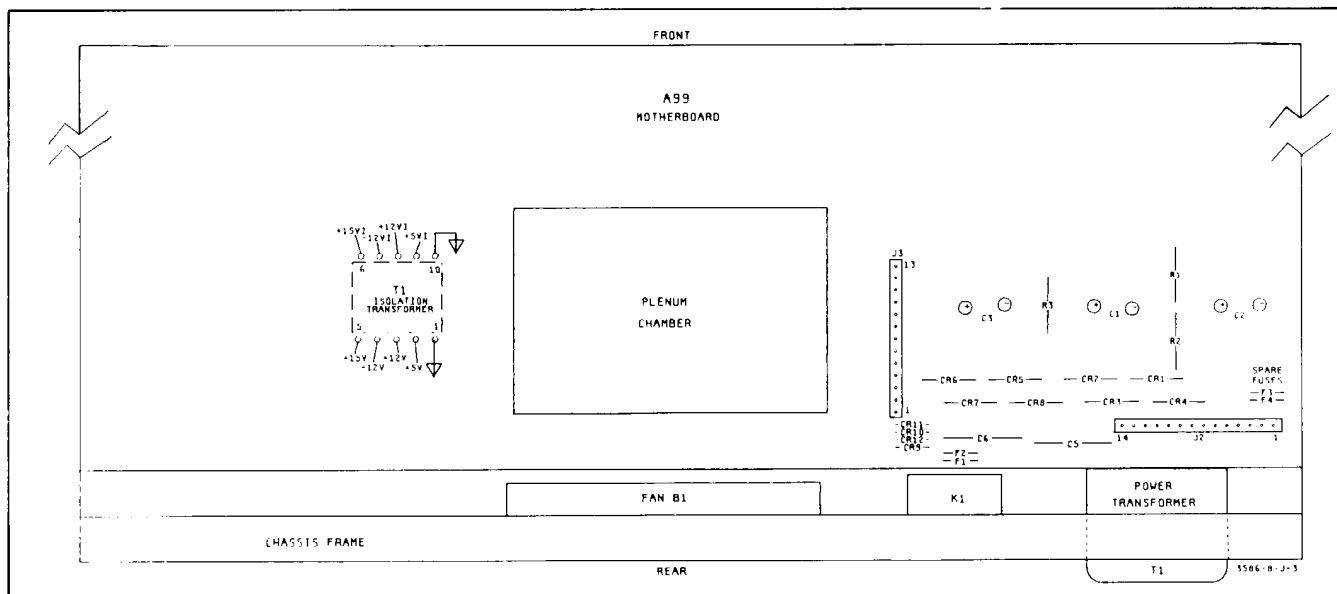

Figure 8-J-3. A99 Power Supply Components (Bottom View).
C3 with respect to the (-) terminal (chassis ground). It should read about +11 to +12 volts DC. (Refer to Figure 8-J-3 for the location of C3). If the voltage on C3 is bad, suspect CR5-CR8, C3, K1, Q3 and CR20. If the voltage on C3 is good, remove power, reinstall A80 and reapply power. The voltage on C3 should now be +8 to +9 VDC. If not, suspect Darlington Q3, CR20, A80U3, or other components on A80 in the +5V circuit.
9. If the voltage at T1(4) and T1(8) is bad, suspect T1, C6, CR5-CR8, K1 and C3. Remove the bottom cover for access to these components (refer to Figure 8-J-3).
10. If the +12V supply (TP1) is missing, remove power and take A80 out of the instrument. Check XA80(A4) for a short to chassis ground. If a short is present, remove all PC boards listed under +12V in Table 8-J-1, one-at-a-time, until the short disappears. If no short exists, remove the bottom cover and refer to Figure 8-J-3 for the following steps.